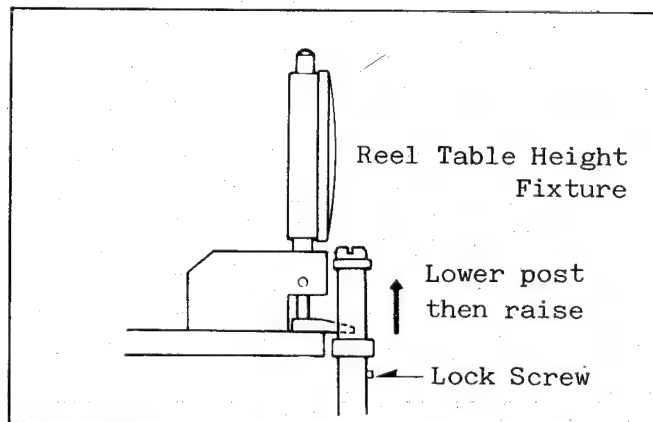

Fig. M22-2 Adj. of Tape Guide Post Height
3. Place the fixture on the Adjustment Plate and fit the scraper to the Adjustment Plate as shown in Fig. M22-2. (The scraper of the fixture should be fully lowered till it touches plate.)